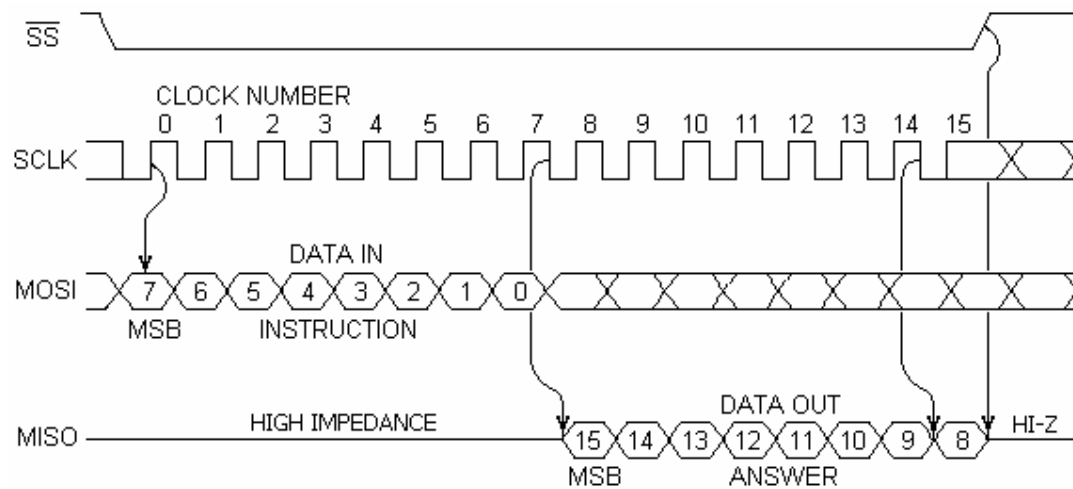

Figure 5-3. Serial Exchange Sequence (the reading of the higher half of the answer)
- If high level is applied to $\overline{SS}$ during the answer reception, the answer will be truncated. This can be used to limit the reading of the answer to e.g. one byte only (see Figure 5-3).